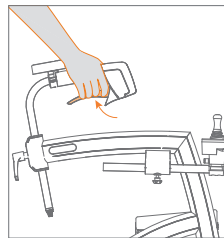

Figure 27: Braking.
- b. Squeeze the brake handles for braking (**Figure 27**).